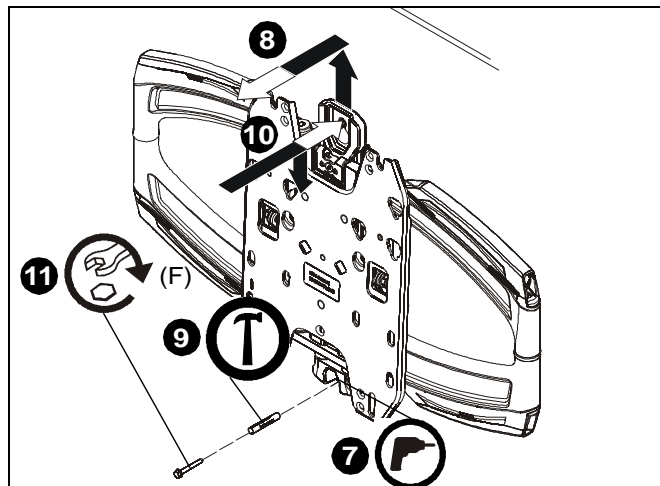

Figure 18
7. Mark and drill one 3/8" hole at lower mounting hole location. Hole should be 2 1/2" in depth. (See Figure 18)
8. Remove main assembly from wall. (See Figure 18)
9. Install the other concrete anchor into drilled hole. (See Figure 18)
10. Place main assembly back onto wall. (See Figure 18)
11. Install 5/16-2 1/2" hex flange lag screw (F) into concrete anchor to secure main assembly to wall. (See Figure 18)
12. Tighten top lag screw to fully secure mount to wall. (See Figure 18)